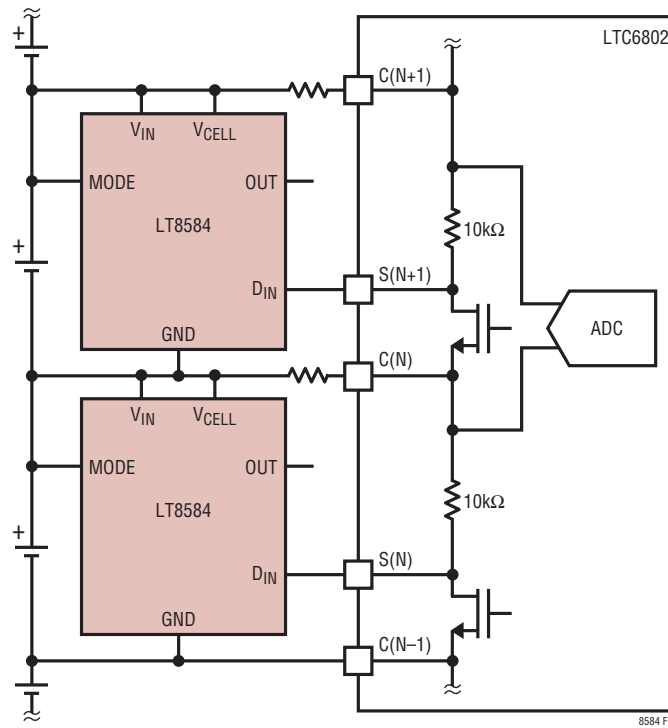

Figure 17. LTC6802 Simplified Connections
The LTC6803 and LTC6804 have several advantages over the LTC6802, see Figures 17 and 18. First, the S pin pull-up is a PMOS device instead of a 10k resistor. Also, the static current with the S pin low is 3µA instead of 400µA. This allows the user of the LTC6803 and LTC6804 to measure cell voltage and other parameters with the LT8584 enabled without noticeable measurement error. Second, several added commands including RDCVA/RDCVB/RDCVC allow the user of the LTC6803 to read a smaller subset of cells, reducing the amount of data and time to extract individual cell information. Conversely, the LTC6802 requires the user to read all bytes in the cell register group which can significantly increase read times when using multiple LTC6802s in a daisy chained serial configuration.
The LTC680x has an internal multichannel differential ADC that measures the voltage between each consecutive pair of C pins. Figures 17 and 18 show the ADC connected to C(N) and C(N+1), measuring the difference between the two adjacent LT8584's OUT pins. Most parameters require two measurements, one with the top LT8584 selecting V_{CELL} and another one with the top LT8584 selecting the desired parameter. The difference between these two measurements yields the desired parameter value. This is required since the LTC680x is not directly connected to the battery cells. See the Serial Mode Differential Measurements section for more detail.
becomes $2 \times 47\text{nF}$ or 94nF. Figures 17 and 18 have omitted these capacitors for the sake of simplicity (see the Typical Applications for proper connection of the filter capacitors).